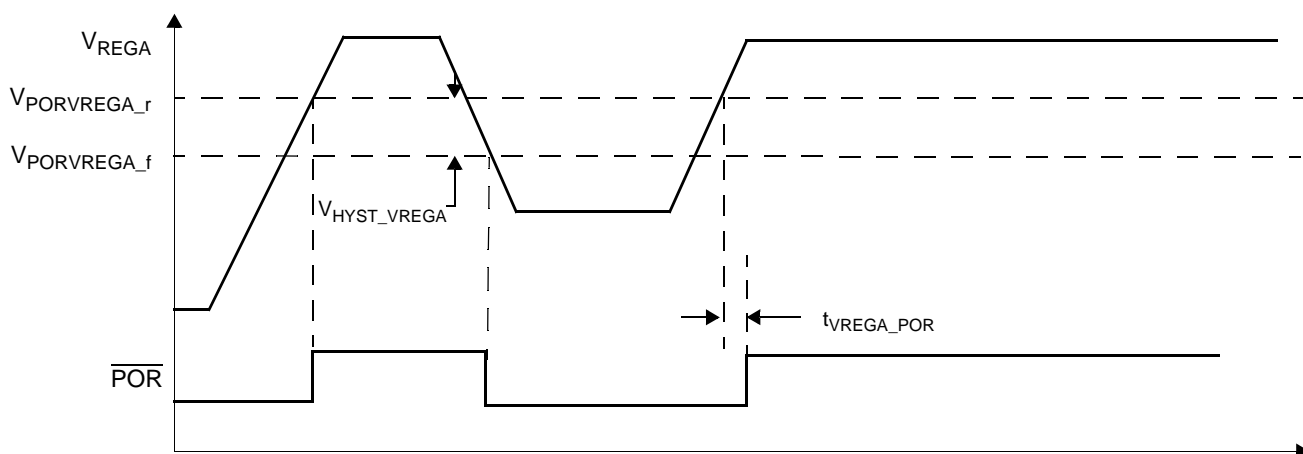

Figure 7.  $V_{REGA}$  Under-Voltage Detection
| 85  | $V_{REGA}$ Under-Voltage Reset Delay (See Figure 7)$V_{REGA} < V_{PORVREGA\_f}$ to POR assertion  | $t_{VREGA\_POR}$     | —             | —                 | 5                 | $\mu$ s                 | (3) |